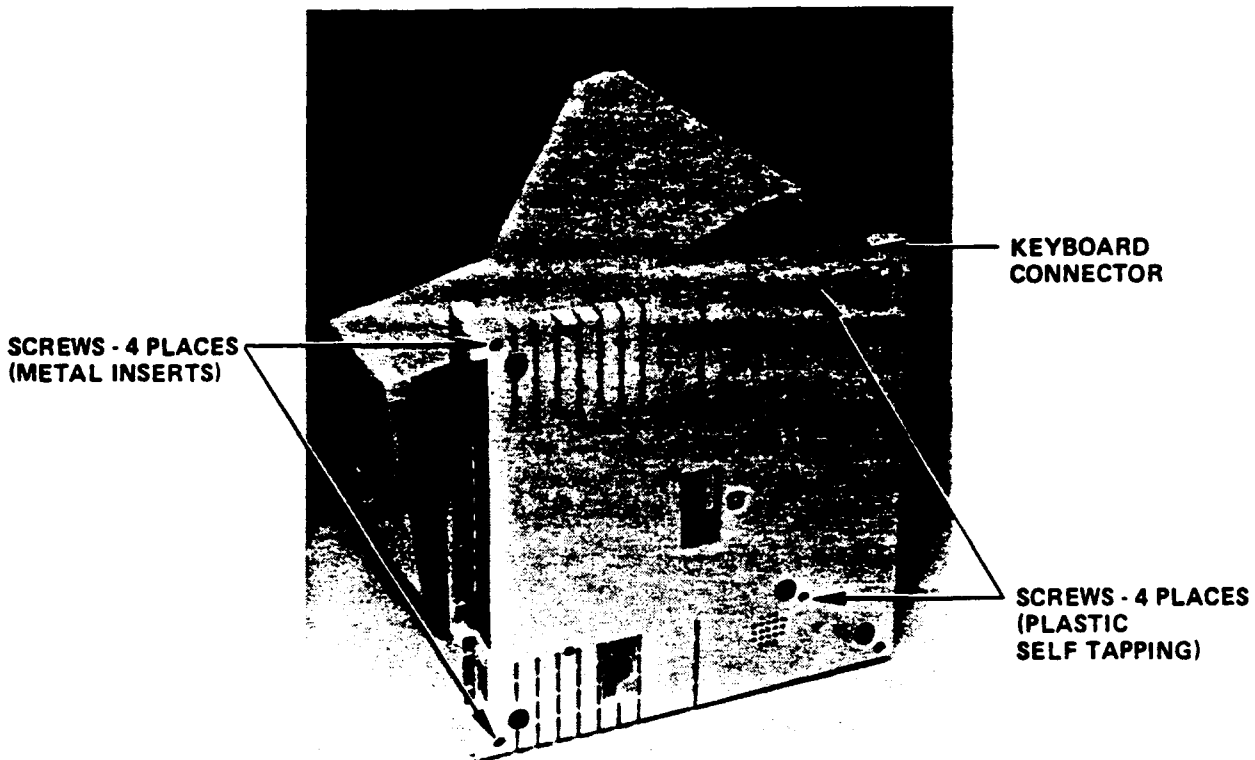

Figure 2-12. Removal of the Rear Connector Cables and Bottom Cover
2. Turn the terminal on its side, so that the keyboard connector receptacle is located on the top right hand side, as shown in Figure 2-12.